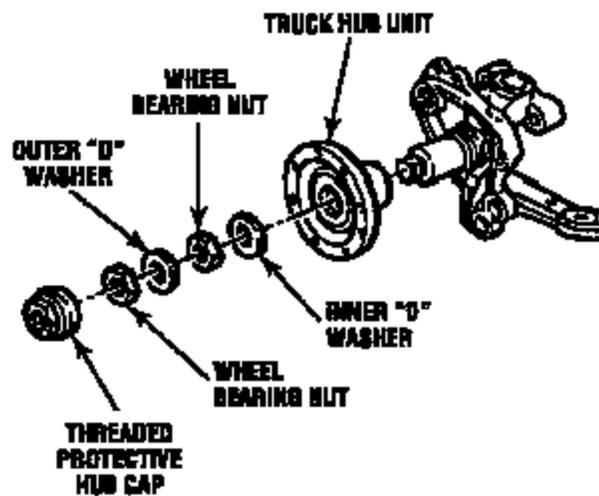

Figure 1
2. Bend back the outer "D" lock washer tab away from the flat edge of the outer wheel bearing nut. Refer to Figure 1.